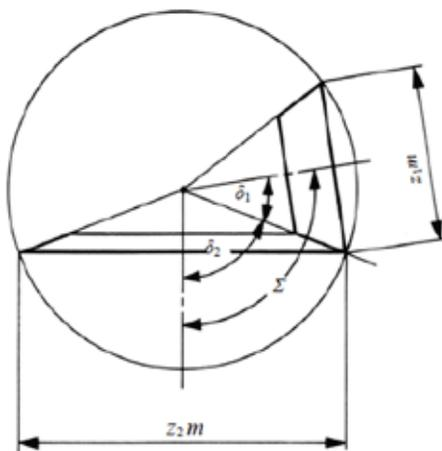

Figure 1: The reference cone angle of a bevel gear.
As noted in Figure 1, the sum of the pitch cone angles (d_1 and d_2), is equal to the shaft angle (S). The most common shaft angle is 90 degrees. When the shaft angle is some value other than 90 degrees, the formula for calculating the pitch cone angles is: